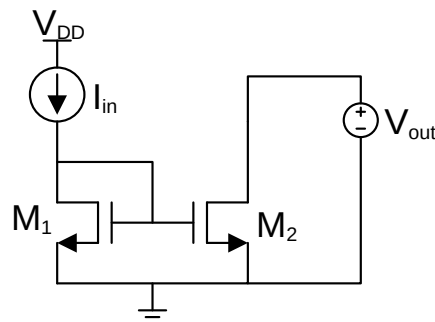
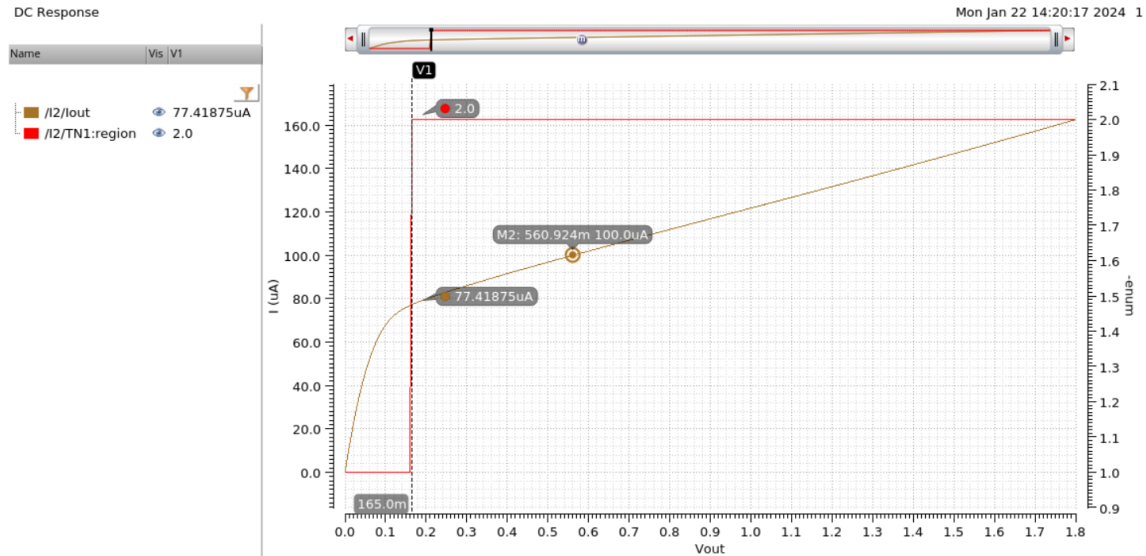
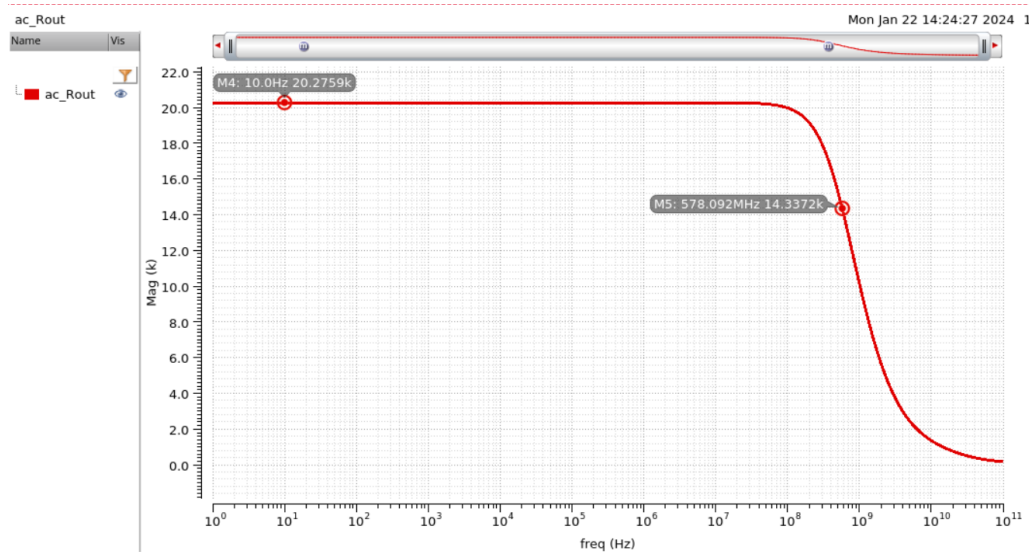

Figure 5-4: Current Mirror Test Configuration
Figure 5-5: Current Mirror Simulation Results for Compliance Voltage
Figure 5-6: Plot of Simple Current Mirror Output Impedance
Once a current mirror has been designed using hand calculations, use the test configuration in Figure 5-4, where I_{in} is the reference DC current and V_{out} is a DC voltage source that will be varied in a DC sweep simulation. After running the simulation, plot I_{D2} (if necessary, refer back to Lab 1 for more information regarding the plotting of signals). The resulting I_{D2} versus V_{out} plot should resemble Figure 5-5. The compliance voltage will be the point on the plots where the slope of I_{out} begins to change rapidly, indicating that the output transistor is entering the saturation region of operation (see the “Operating Region of Transistors in Cadence” section for a method of quantifying this boundary). On the plot, mark the compliance voltage and the voltage at which I_{D2} is equal to the desired output current level. **Note that you will likely want to utilize a smaller step size in the DC sweep to get greater resolution of the compliance voltage. Change the “sweep type” setting in the DC sweep setup to “Linear” rather than “Automatic” and set the step size or number of steps to a suitable value for more clearly determining whether your current mirror satisfies the specifications.** The choice of variable step size can be thought of as a sampling problem: consider the approximate width (in terms of the sweep variable or x-axis variable) of the feature you are trying to identify, then select a step size which is *less than* half of that feature width to gain enough resolution in the sweep for accurately viewing the desired features of the plot.
To plot the output impedance, go to *Tools* → *Calculator*. First, click on “vf” on the Calculator and then the output node (wire) on the schematic. Second, click on “if” on the Calculator and then the (-) terminal of the voltage source V_{out} on the schematic. Finally, click on “/” on the calculator, and then *Tools* → *Plot*. Refer to the Appendix in the Lab 1 manual for more information regarding the saving and construction of output expressions. The output impedance plot should resemble Figure 5-6. In this example the output impedance is about 20 k Ω at low frequencies with a pole in the response located slightly below 600 MHz.
- b) Generate the plots of Figure 5-5 and Figure 5-6 for this design. In the DC sweep, mark the compliance voltage and the point at which the output current equals 120 μ A. In the AC response, mark the low-frequency output impedance and the pole frequency.